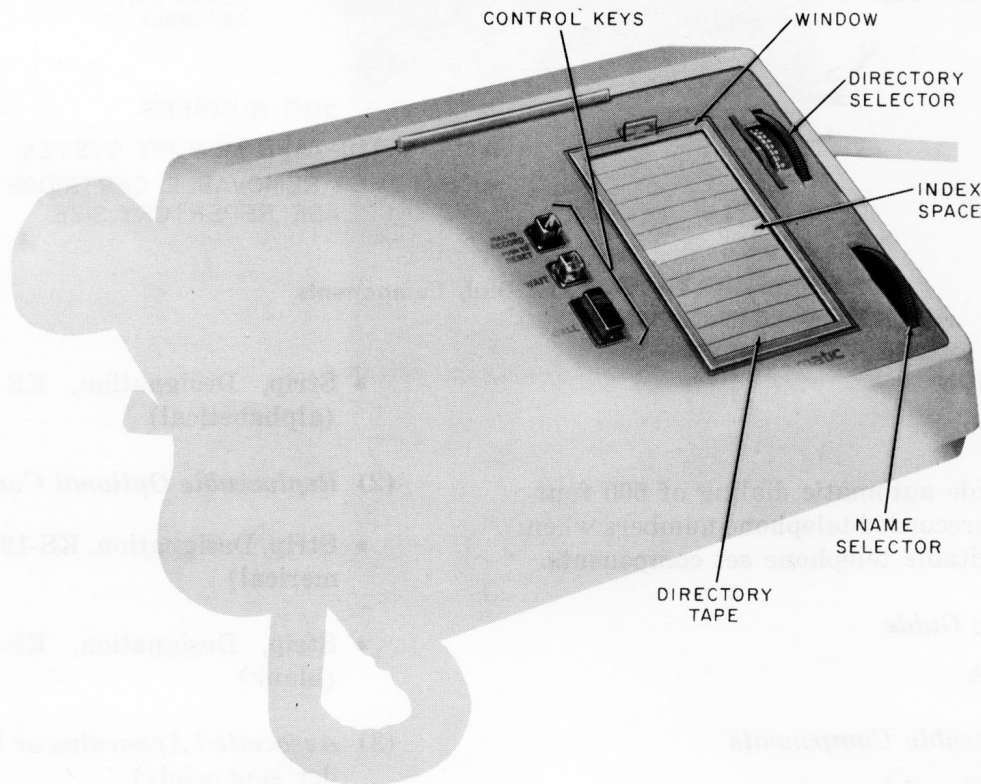

Fig. 2 — 51A Dial, Controls
- (a) PULL TO RECORD-PUSH TO RESET Button (Fig. 2) — Pull up and release for record mode (illuminated). Push to reset dialer to start position (nonilluminated).